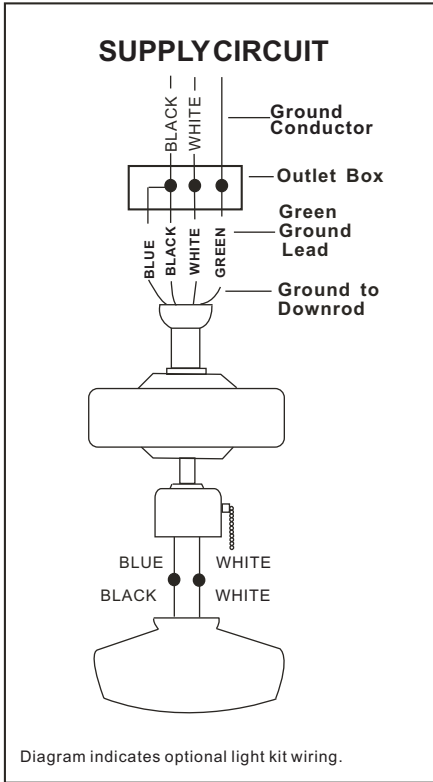

Figure 6
1. Connect the Black (hot) wire from the ceiling to the black and blue wires from the fan. Connect the white (neutral) wire from the ceiling to the white wire from the fan. (Figure 6)